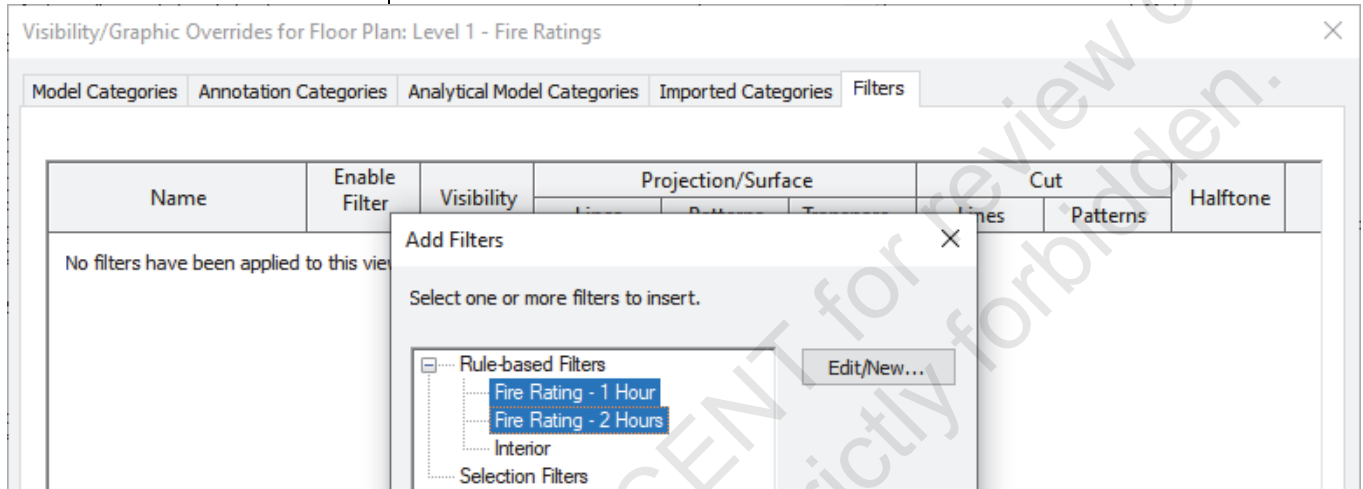

Figure 1–116
6. In the Add Filters dialog box, select the Fire Rating filters, as shown in Figure 1–116, and click **OK**.